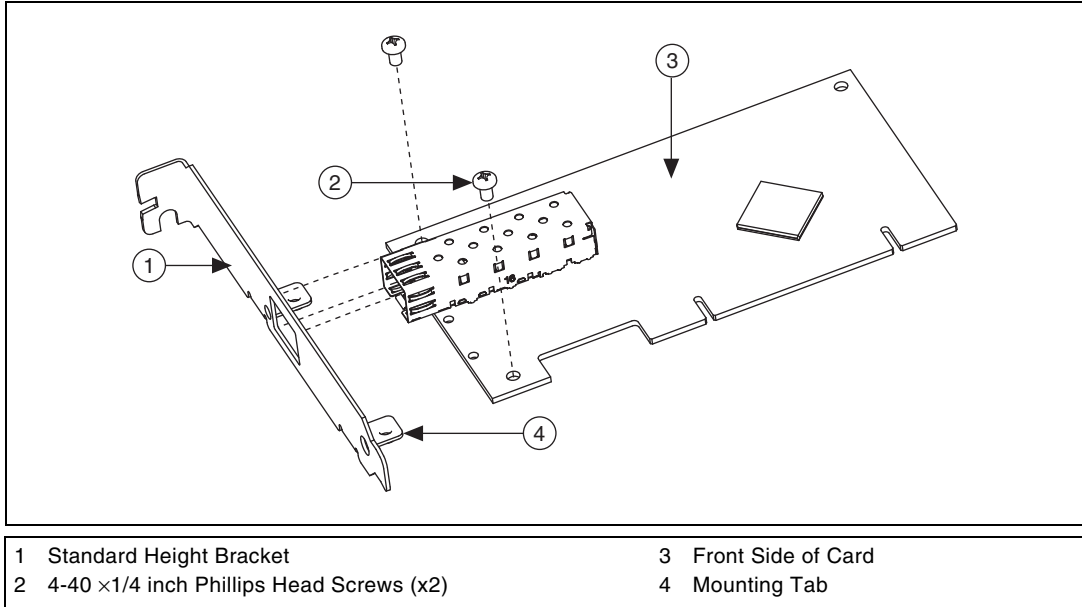

Figure D-2. Removing Bracket
4. Remove the two 4-40 × 1/4 inch Phillips head screws that attach the standard height bracket to the card as shown in Figure D-2. Set the screws aside to re-use when installing the low-profile bracket.
5. Remove the standard height bracket as shown in Figure D-2.